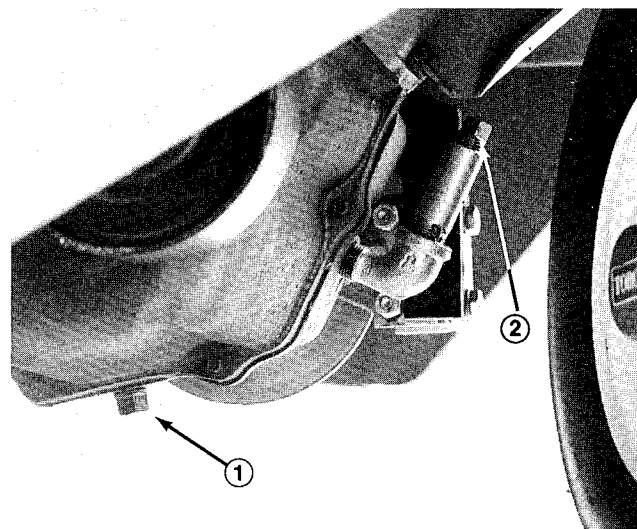

Figure 37
1. Place a drain pan below drain plug on axle. Clean area around drain plug (Fig. 37).
3. Remove fill plug (Fig. 37) and pour approx. 64 oz. of SAE E.P. 90 wt. oil into extension tube. Stop when oil level reaches top of tube.